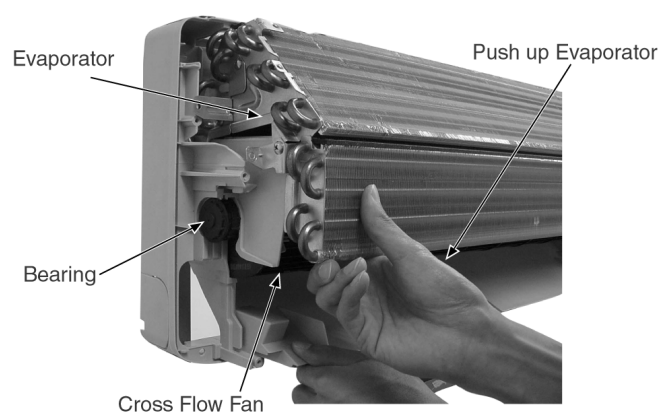

Fig. 9
- Remove the Bearing. (Fig. 9)
- Push up the Evaporator and pull out the Cross Flow Fan from shaft. By then, Fan Motor can be taken out. (Fig. 9)